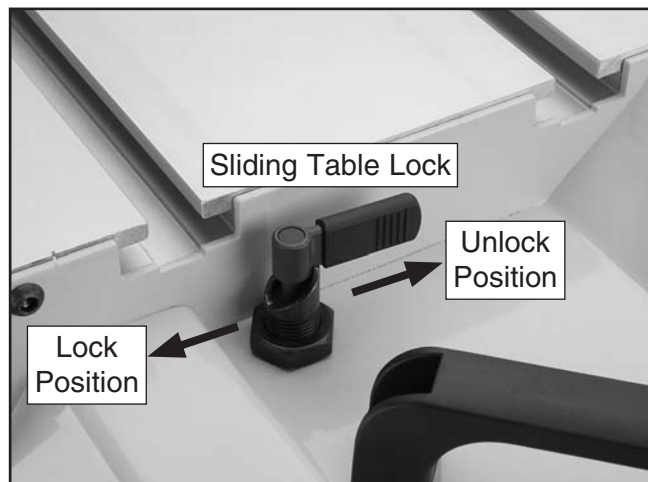

Figure 57. Sliding table lock.
1. Lock the sliding table in a stationary position in front of the saw. (The table will only lock in place when it is centered in front of the saw and the sliding table lock is in the locked position (see **Figure 57**).